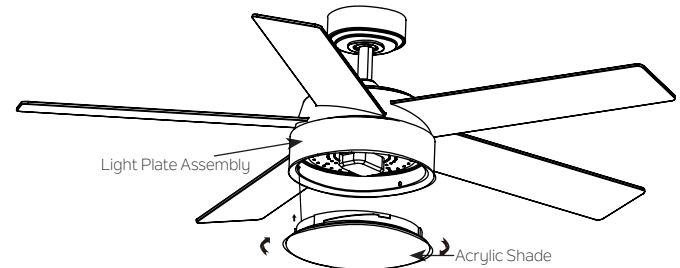

Fig. 23
Step 3. Tuck the connections neatly into light kit, then attach the light kit to light plate assembly and securely tighten with three screws removed on step 1.(Fig. 23)
Step 4. Secure the acrylic shade to light plate assembly by twisting in a clockwise direction, twist the acrylic shade gradually until it snaps on to the light plate assembly. Do not over - tighten. (Fig. 23)